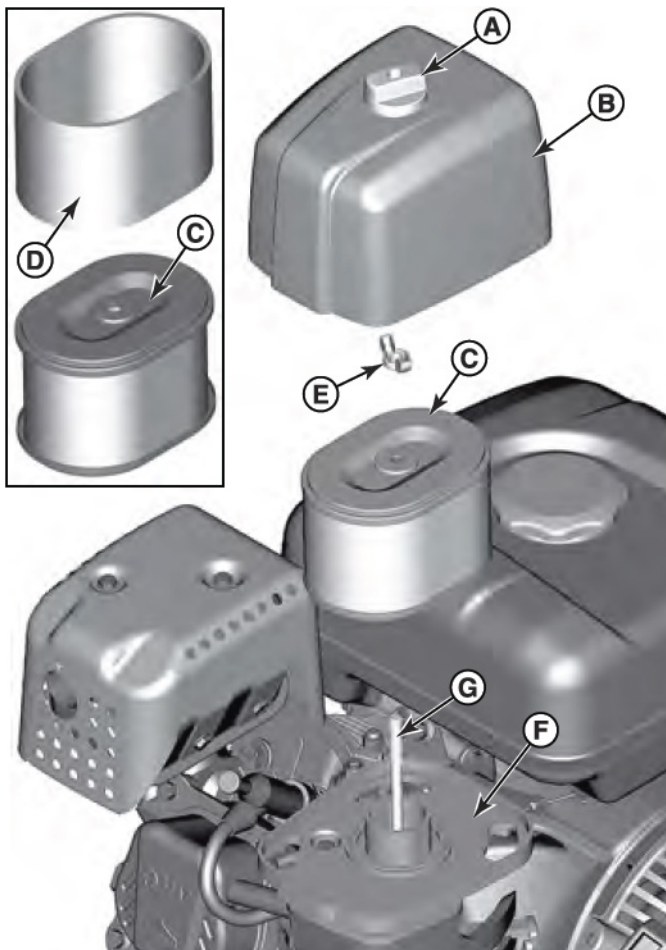

FIGURE 21
- Remove the cover B as shown in figure 21.
- To prevent debris from falling into the carburetor, carefully remove the pre-cleaner D and filter C from the air filter base F. See figure 21.
- Gently tap the filter C on a hard surface to loosen debris. If the filter is excessively dirty, replace with a new filter. See figure 21.
- Remove the pre-cleaner D from the filter C. See figure 21.
- Install the filter C and pre-cleaner D to air filter base F and onto stud G. Make sure filter is properly assembled to air filter base and secure with fastener E. See figure 21.
- Install the cover B and secure with fastener A. Make sure fastener is tight. See figure 21.